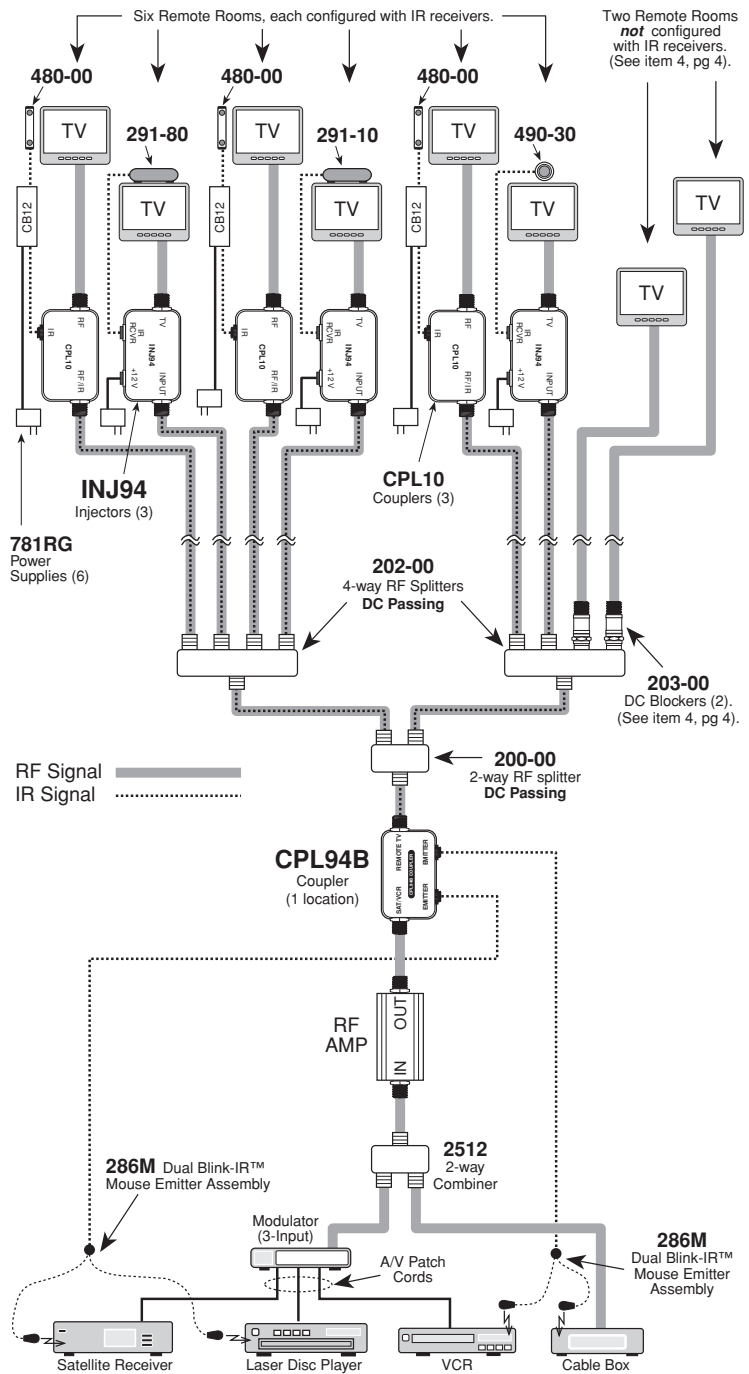

Fig. 4 Advanced Multiroom System
Fig. 4 illustrates an advanced system using a variety of connection and control techniques typical of complex multiroom installations. It is configured as follows:
Where possible, place RF amplifiers ahead of the CPL94B Coupler, as shown in Fig. 4, instead of using a bypass kit.
- Fig. 4 shows four components being controlled using two 286-00 dual emitters. This is the maximum number of components controllable with the CPL94B. If you wish to control more, use the CPL10